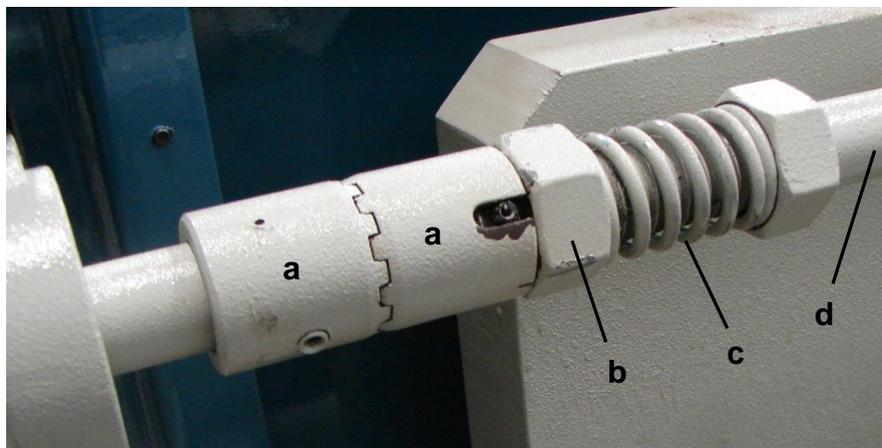

figure 9
2. Disengage the two halves of the coupling link "a" by first turning nut "b" clockwise (cw) to compress spring "c" (fig. 9).